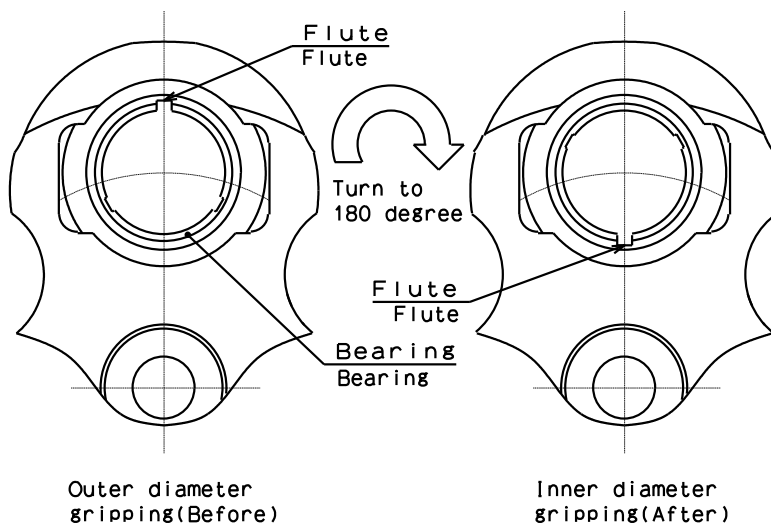

Fig.4-3
- ④ Pull up the spherical bushing together with the master jaw to the extent that the side of spherical bushing appears a little.
- ⑤ Remove to set the spherical bushing in the spherical bushing assembling jig. (See 6-1) (Check to see that no woodruff key falls.) If spherical bushing separated into two parts, apply the new sealing compound “Three bond company Seal compound 1212” to the separated surface after remove the old sealing compound, moisture, oil stain, and others. Then, set the spherical bushing in the spherical bushing-assembling jig.
- ⑥ Turn the bearing to 180 degree horizontally to aim the flute of bearing. (See Fig.4-3)